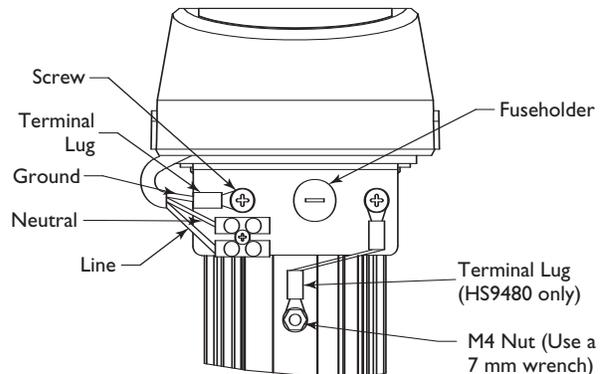

Figure 9: Power Connections - Nonfan Units
4. A screw/terminal lug is provided for securing a safety ground. To attach the safety grounding wire (green | 15 volt, green/yellow 230 volt), first unscrew the terminal lug and strip and crimp the grounding wire into the lug. Attach the terminal lug to the bracket using the M4 x 10 screw provided (HS9480 models use an M4 Nut to screw the lug to the base). See **Figure 9**.